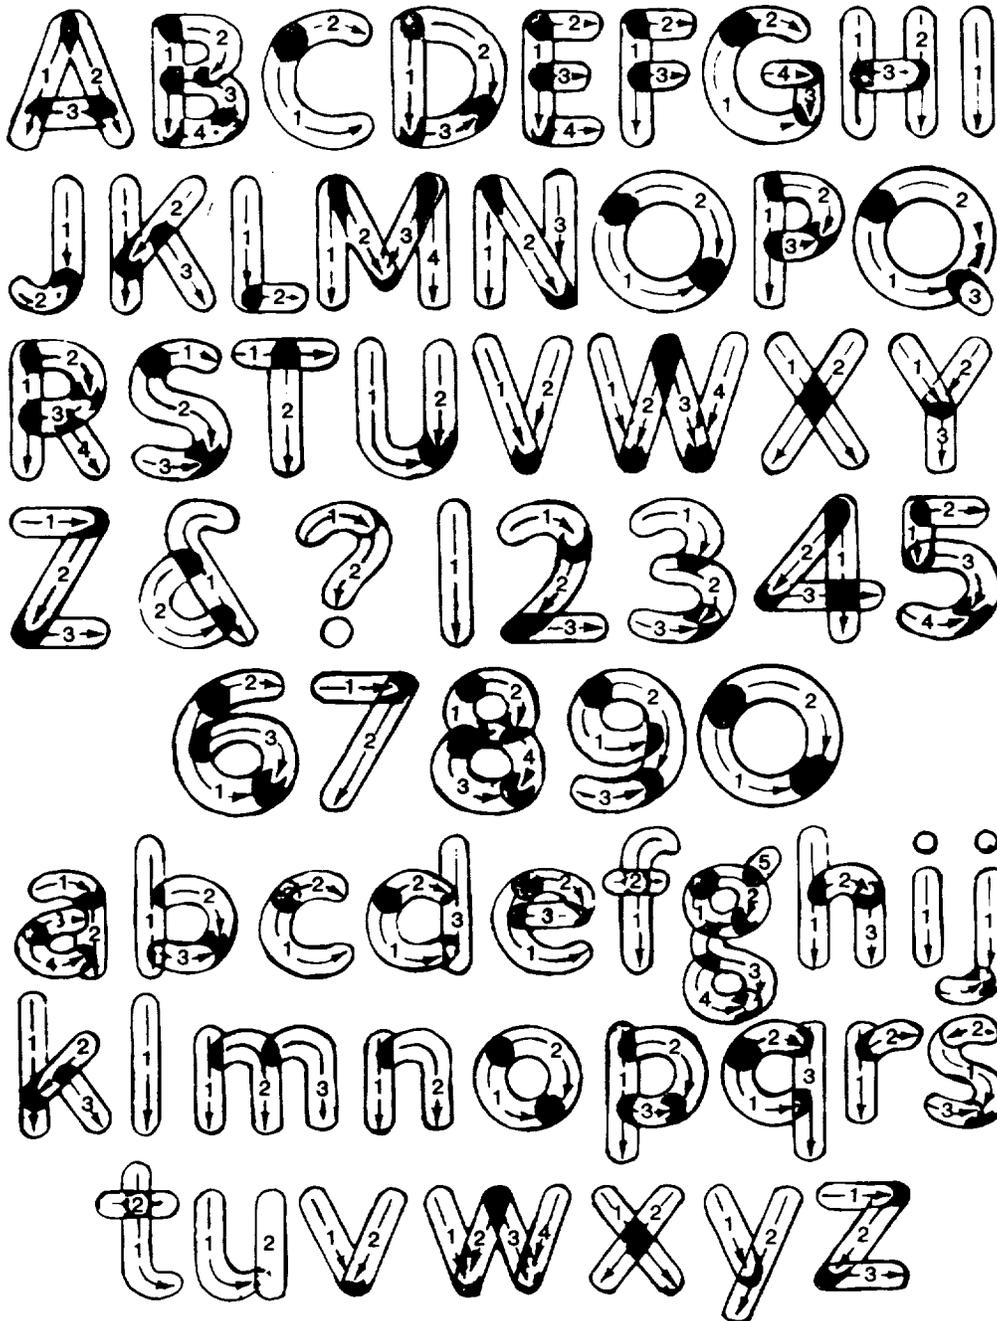

Figure 6-4. Brush Strokes for Lettering
c. Direction of Brush Strokes. The appearance of a hand-drawn letter depends, to a very considerable degree, upon the direction given to each brush stroke. It is therefore important to closely follow the standard directions shown in figure 6-4 using the oval wash brush.